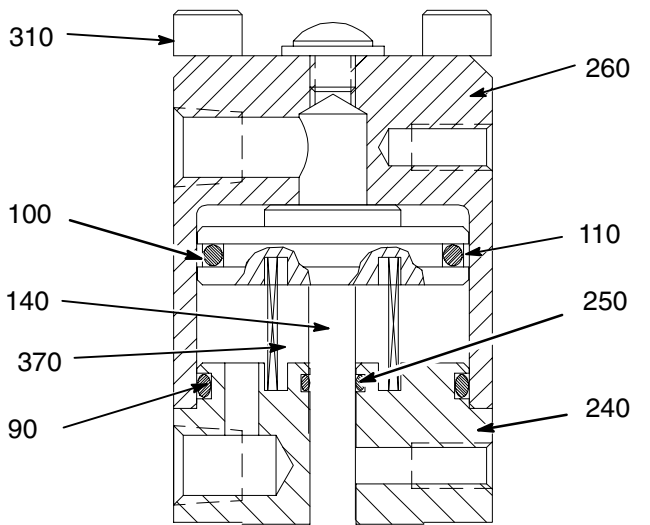
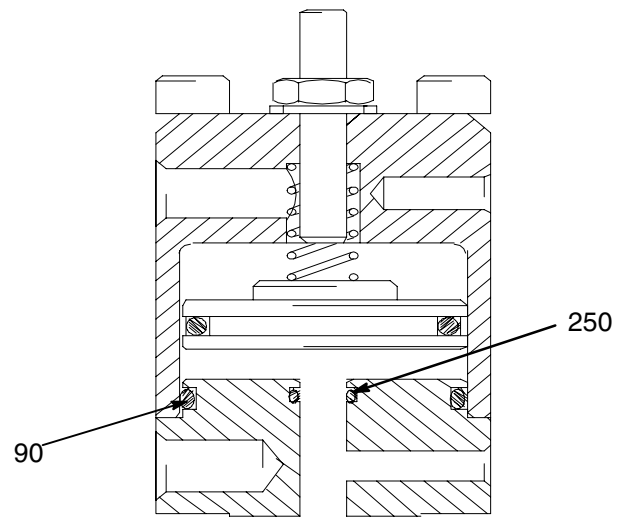

Fig. 11 Snuff-Back Valve Shown
Fig. 12 Base Seal Valves
4. Reassemble cap and base (Fig. 11):
- a. Lubricate o-ring (100) and ring (110).
- b. Insert o-ring (100) into needle piston (140) groove.
- c. Slide ring (110) on top of o-ring (100).
- d. Lubricate, then replace o-rings (90) and (250). Insert spring on base seal models (Fig. 12).
- e. Insert needle assembly into cylinder cap (260).
- f. Place spring (370) over shaft of needle/piston. Seat spring in groove on piston face on snuff-back models (Fig. 11).
- g. Slide base (240), over the needle, into the cylinder cap (260). Seat spring (370) in groove on base.